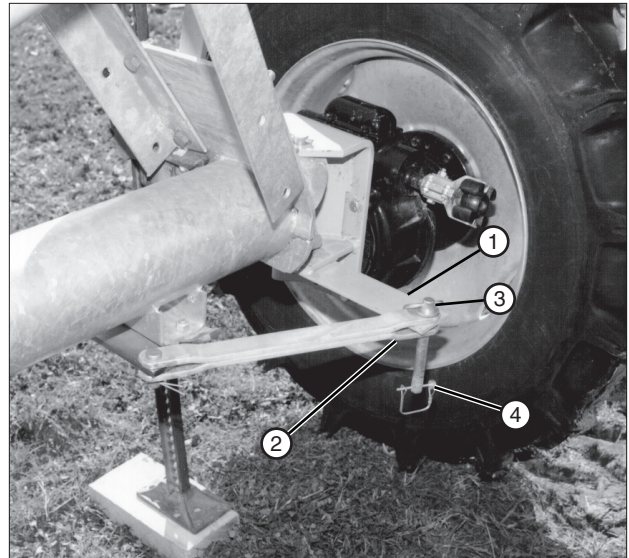

Figure 37-2 1. Steering Arm 2. Tow Link Bar Yoke 3. Torque Pin 4. Lynch Pin
9. Position steering arm in tow link bar yoke, align holes, then attach steering arm to tow link bar with torque pin. Secure torque pin with lynch pin. See figure 37-2.